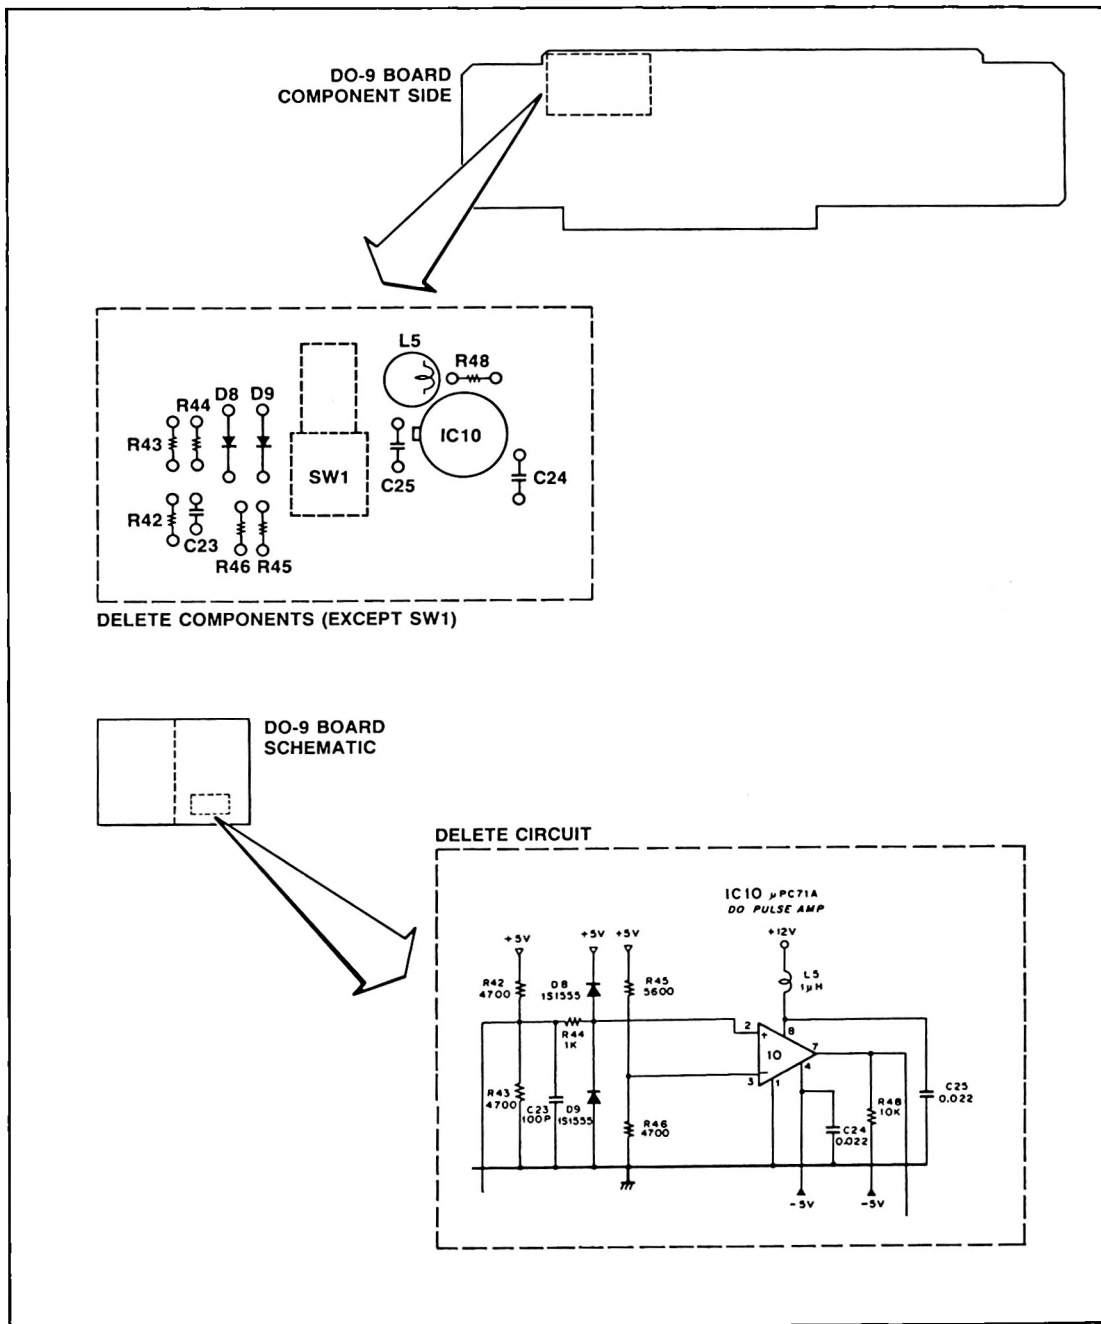

Figure 3
1. Remove following components (See Figure 3.):